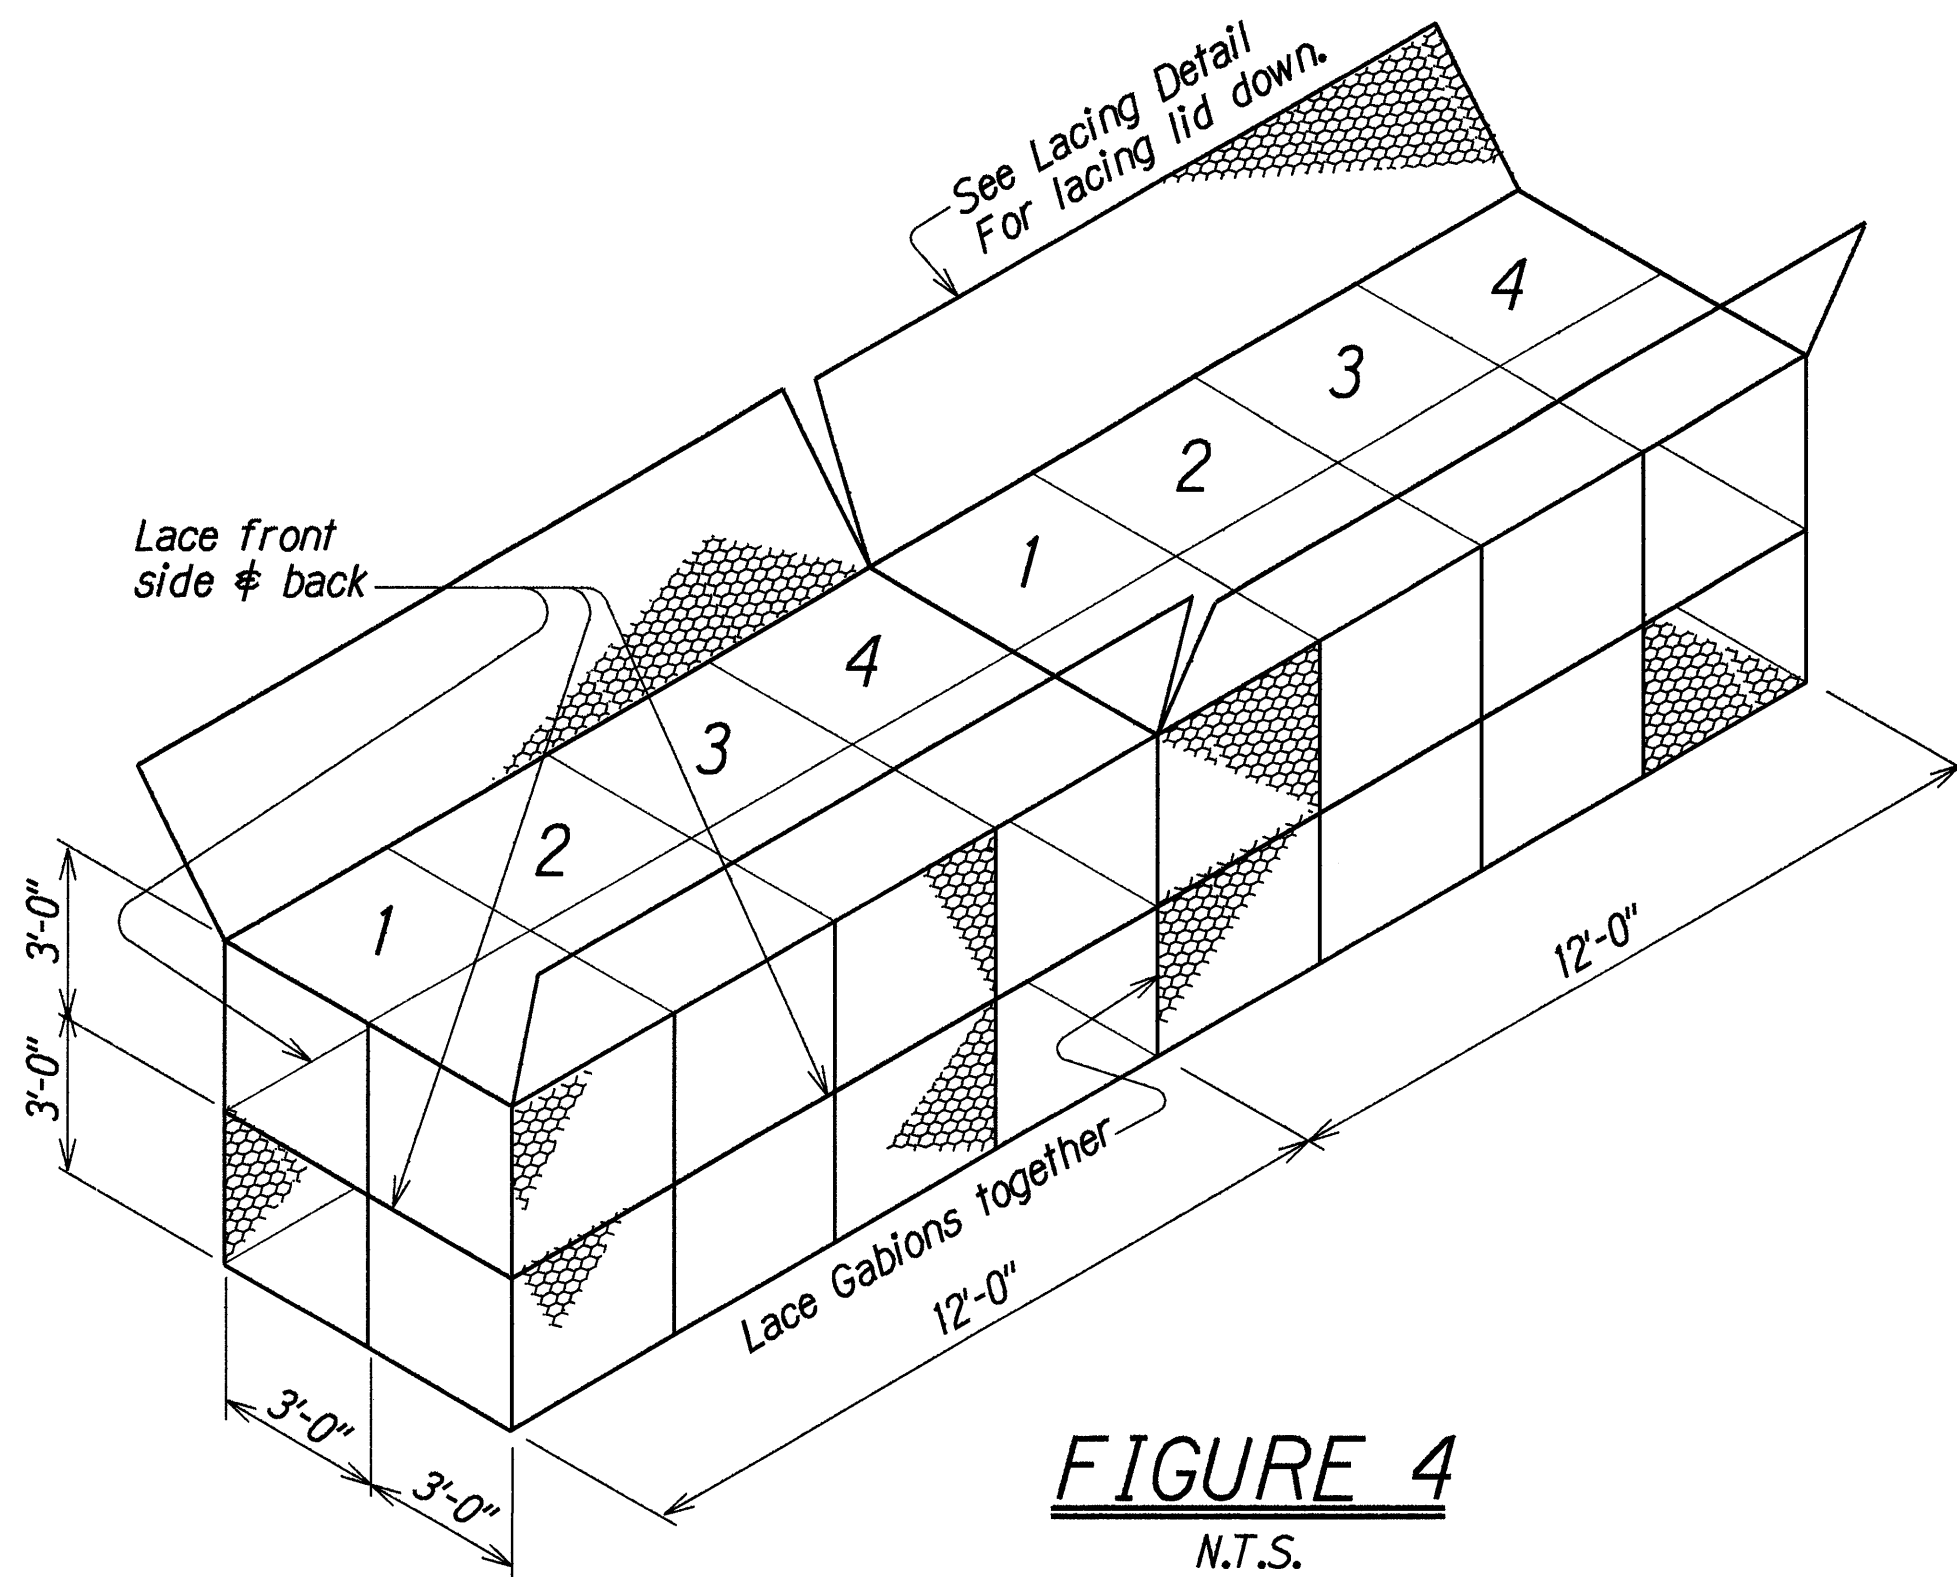

FIGURE 4
- Subsequent tiers of gabions should be built in the same manner. Adjoining gabions are laced together at all adjoining selvage edges. Empty gabions stacked on filled gabions are laced to the filled gabions at front, side and back. (See Figure 4)